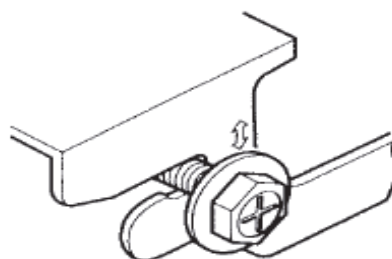

Figure 1-2-4
- Suspension bolt stays inside the cap of indoor unit. Never remove the cap. Lift the unit and slide forward unit the dent. (Refer to Figure 1-2-4)